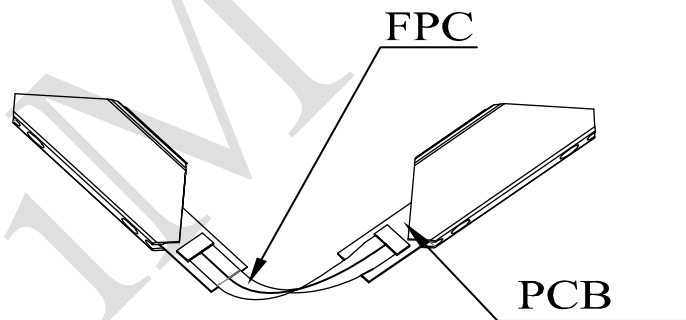
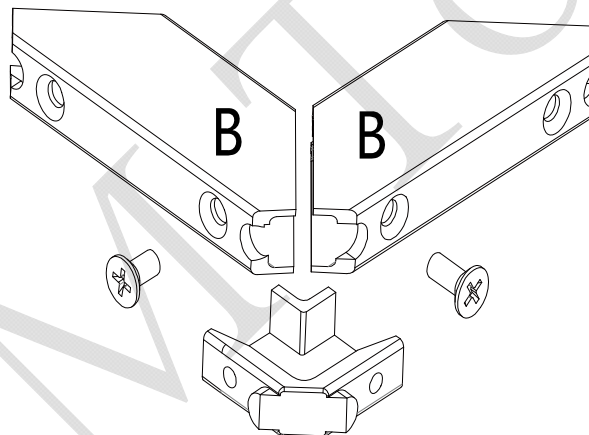
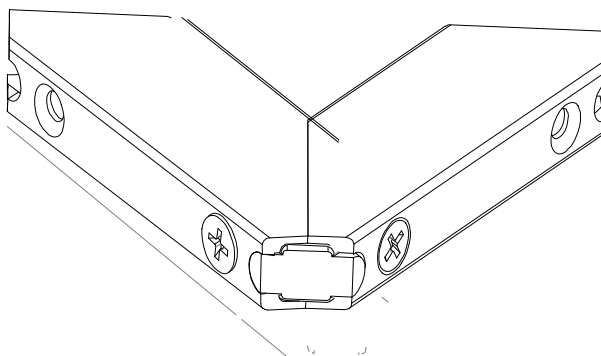
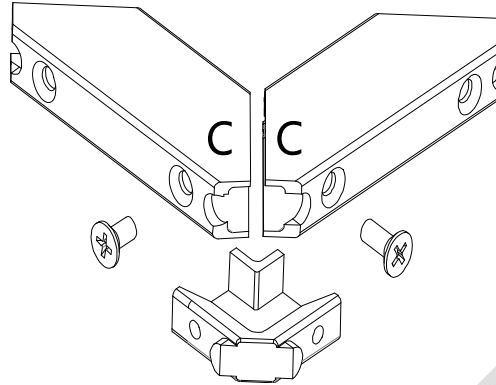

Fig. 3 FPC Connection Diagram
Fig. 6 Installation Diagram of Corner B-B
Fig. 7 Assembly Diagram of Corner B-B
Fig. 8 Installation Diagram of Corner C-C
- 2) Connect the FPC wiring harness in the corner A-A as shown in Fig. 3.
5) Connect the FPC wiring harness in the corner B-B as shown in Fig. 3. Install the angle iron and USB as shown in Fig. 6, and the installed effect is shown in Fig. 7.
- 6) Connect the FPC wiring harness in the corner C-C as shown in Fig. 3. Install the angle iron and USB as shown in Fig. 8.